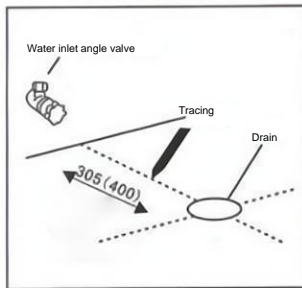
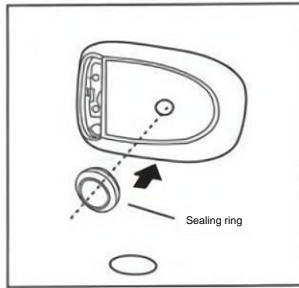

figure 2
figure 3
- Construction and installation instructions (see Figure 2, Figure 3, and Figure 4)